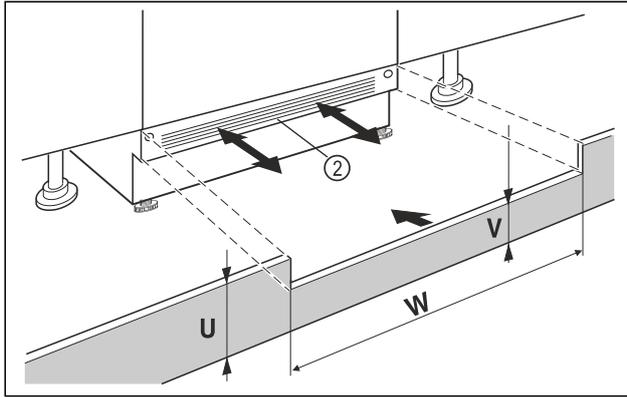

Fig. 96 Example illustration
- ▶ Put on the appliance base cover Fig. 96 (2) but do not fix it in place yet.
- ▶ If the base panel is visible Fig. 96 (2), pull it forwards so that the front edge of the ventilation grille and the unit base panel are level.
- ▶ If the base panel is concealed Fig. 96 (2), push it all the way back.
- ▶ Ensure that the ventilation slots are completely free: If necessary, cut the height of the unit base panel Fig. 96 (U) to size!
- ▶ Adjust the web height Fig. 96 (V) under the appliance base panel Fig. 96 (2) along the niche width Fig. 96 (W).